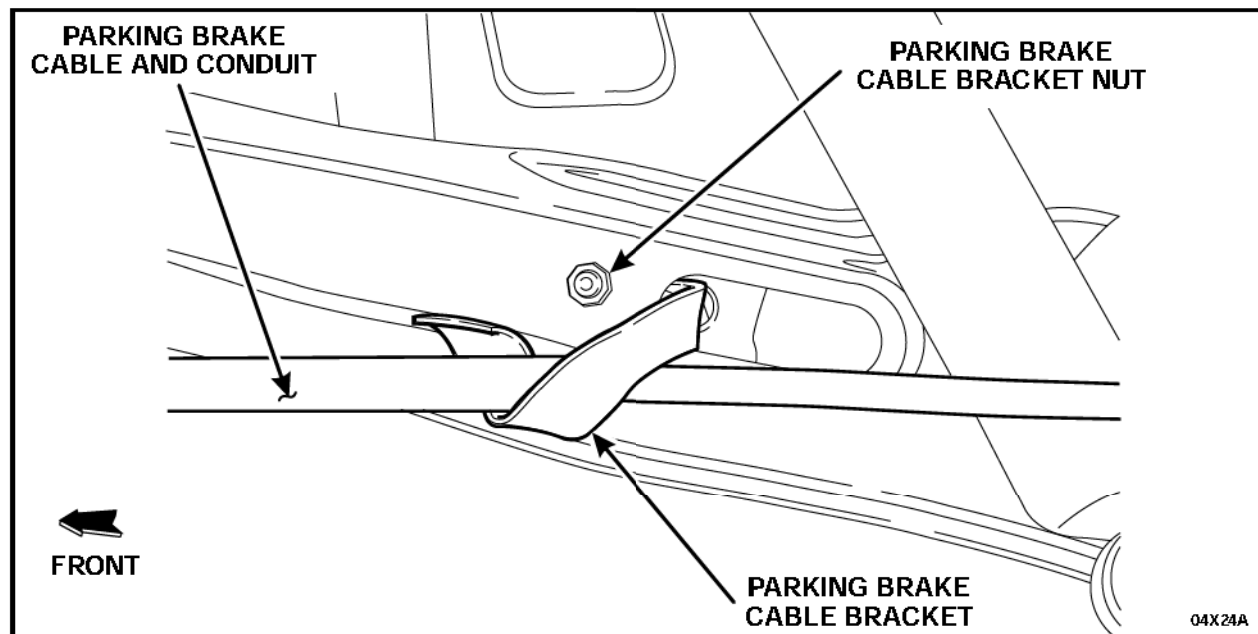

FIGURE 1
2. Remove the parking brake cable bracket nuts and position the parking brake cable brackets aside. See Figure 1.
See Figure 1.